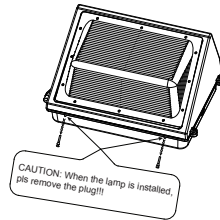

Figure 6
6. Caution: When the product is installed, pls remove the plug at the drain hole. (Figure. 6)